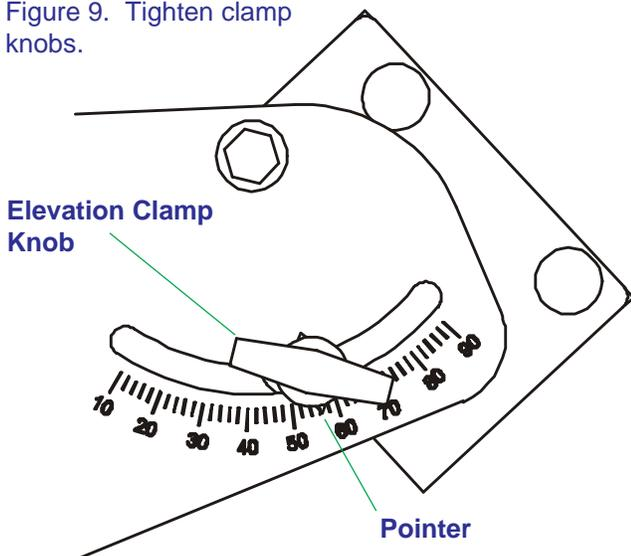

FIGURE 9
STEP 8. Loosen elevation clamp knobs. Set antenna elevation to correct elevation. Align degree of elevation required with pointer washer at the clamp knob. See Figure 9. Tighten clamp knobs.